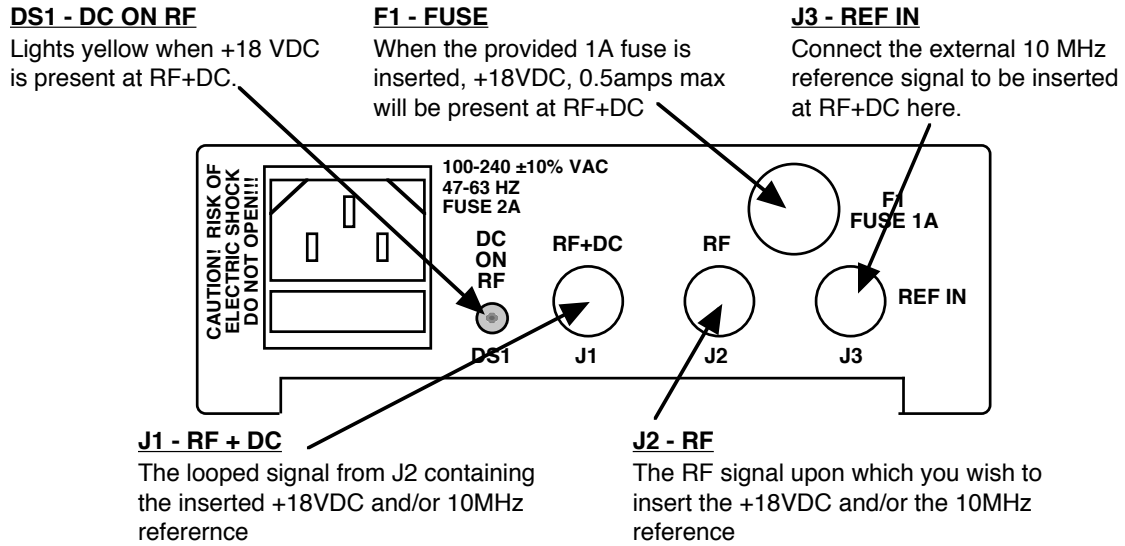

FIGURE 2.2 Rear Panel I/Os
2.2 Rear Panel Input/Output Signals - Figure 2.2 shows the input and output connectors on the rear panel.
1. Connect an RF signal to RF connector, J2 (Figure 2.2).
2. Connect RF+DC connector, J1, to the external equipment (Figure 2.2).
3. To insert +18VDC or +24VDC on the RF signal insert a 1 amp fuse (provided) in fuse holder, F1 (Figure 2.2).
4. To insert a 10MHz reference signal on the RF signal connect a 10MHz source to the REF IN, J3 (Figure 2.2).
5. Connect 100- 240 \pm 10% VAC, 47 - 63 Hz to AC on the back panel (Figure 2.2).
7. If fuse, F1, is inserted check that LNB Power LED, DS1, is on (Figure 2.2)